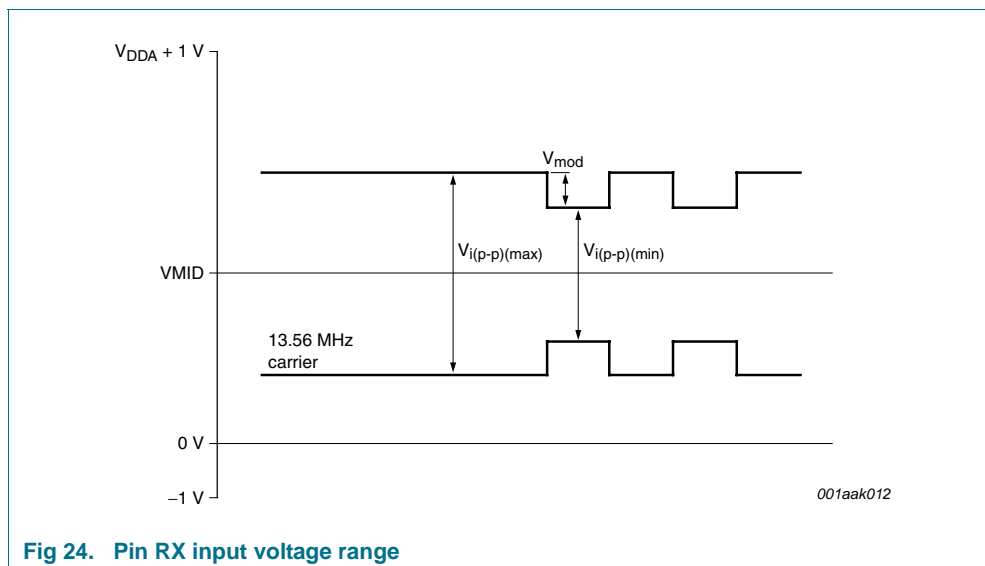

Fig 24. Pin RX input voltage range
*Input voltage range; see Figure 24*
*Input sensitivity; see Figure 24*